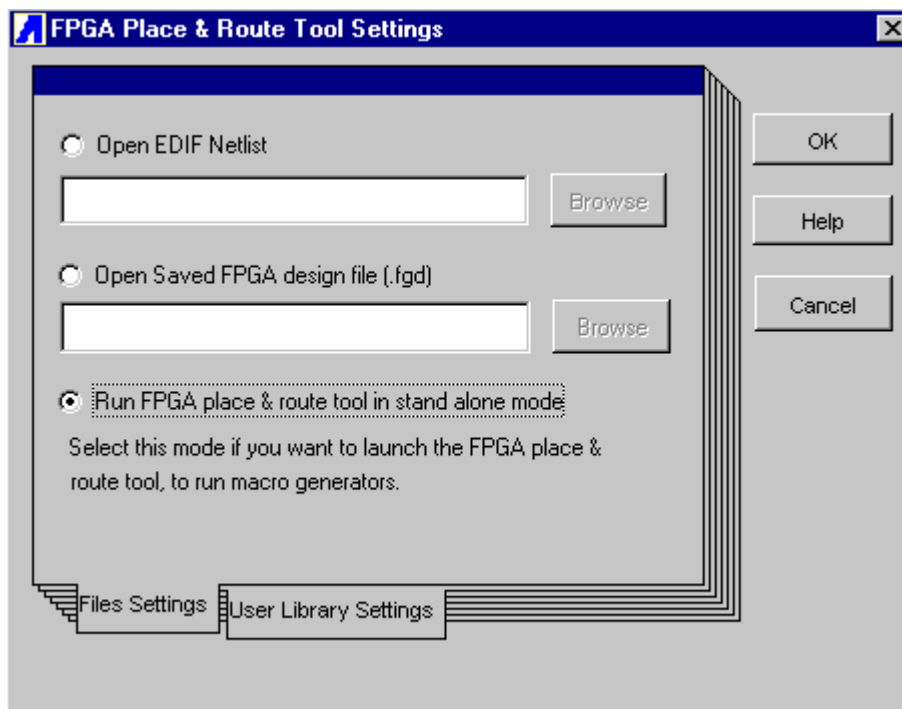

Figure 28. FPGA Place and Route Tool Settings
- Press **Figaro IDS**, the FPGA Place and Route Tool Settings dialog box opens, see **Figure 28**.